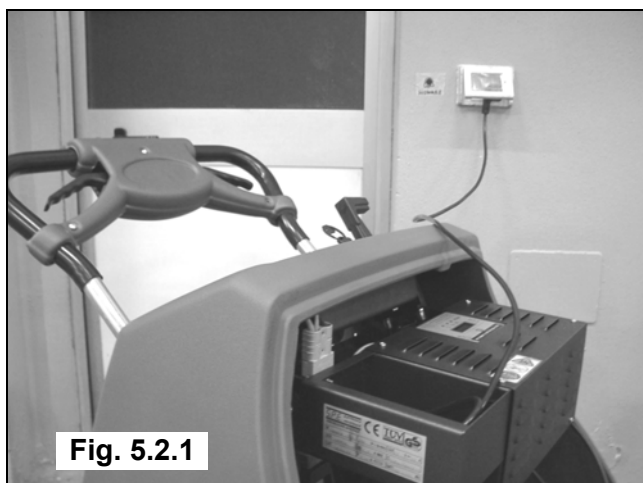

Fig. 5.2.1
2. With the machine turned off, connect battery charger cord (**Fig. 5.2.1**). Make sure the rated input voltage of the charger suits the available supply voltage.